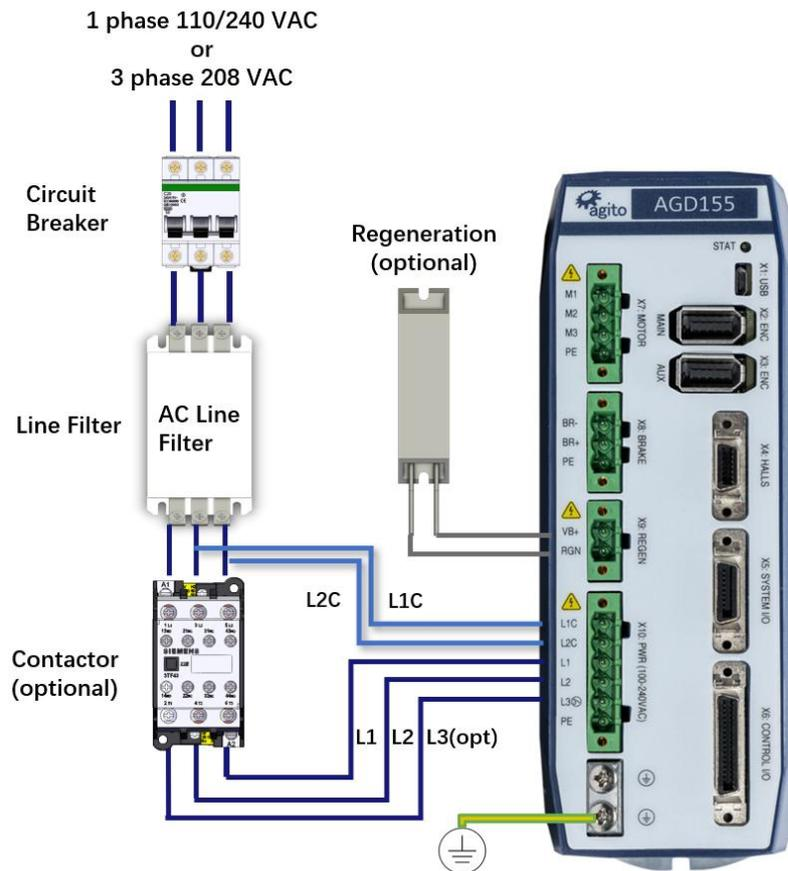

Figure 6. Power Supply Wiring
For proper product operation, an external AC line filter is recommended according to the application. Refer to Figure 6. The AC line filter prevents external transients and spikes on the power line from entering the product enclosure. Such interference may be caused by other AC powered devices being turned on and off, and by motors running on the same power subsystem.
- The AGD155 must be connected to protective earth (PE) and connected to the building's ground. PE is protected with an earth-leakage circuit breaker (ELCB); hence it is safe to touch. Refer to Figure 6.